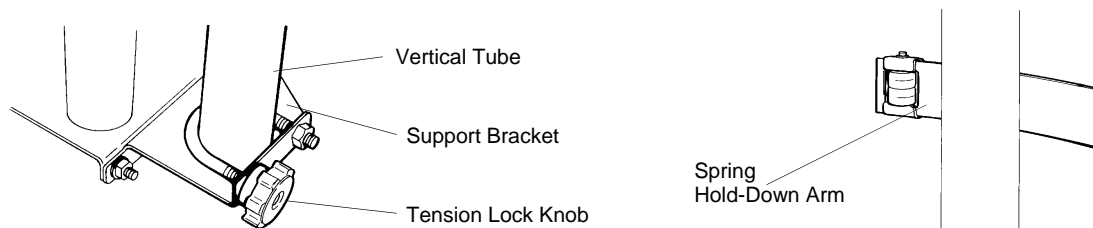

Figure 48: Installing the Hold-Down Bar
1. Attach the top and bottom support brackets (Fig. 48) with four $\frac{5}{16}$ " x $\frac{3}{4}$ " (7.9mm x 19.05mm) cap screws and nuts. The top bracket is marked "T" and the bottom bracket is marked "B".
3. Attach the top and bottom tension locks as shown in Fig. 48.